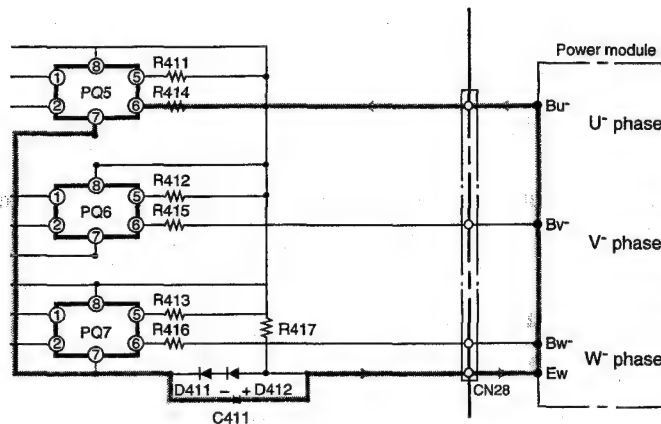

Fig. 7-5
- When pin ② of the micro computer goes "LO" → "HI", a photocoupler between PQ5 pins ① and ② turn off and reverse bias current flows to C411 → power module's Ew- terminals → Bu- terminals → R414 → PQ5 to cut off the lower arm transistors. (Fig. 7-5)